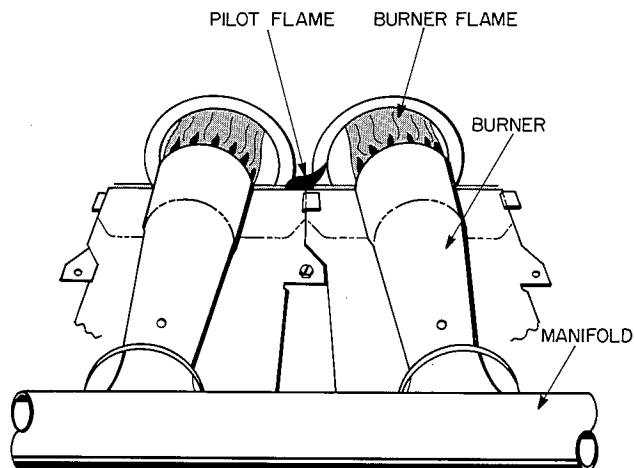

Fig. 5
4. Look through sight glass in burner enclosure and check burner and pilot flame. The main burner flame should be clear blue, almost transparent. The pilot flame should be well defined. See Fig. 5.